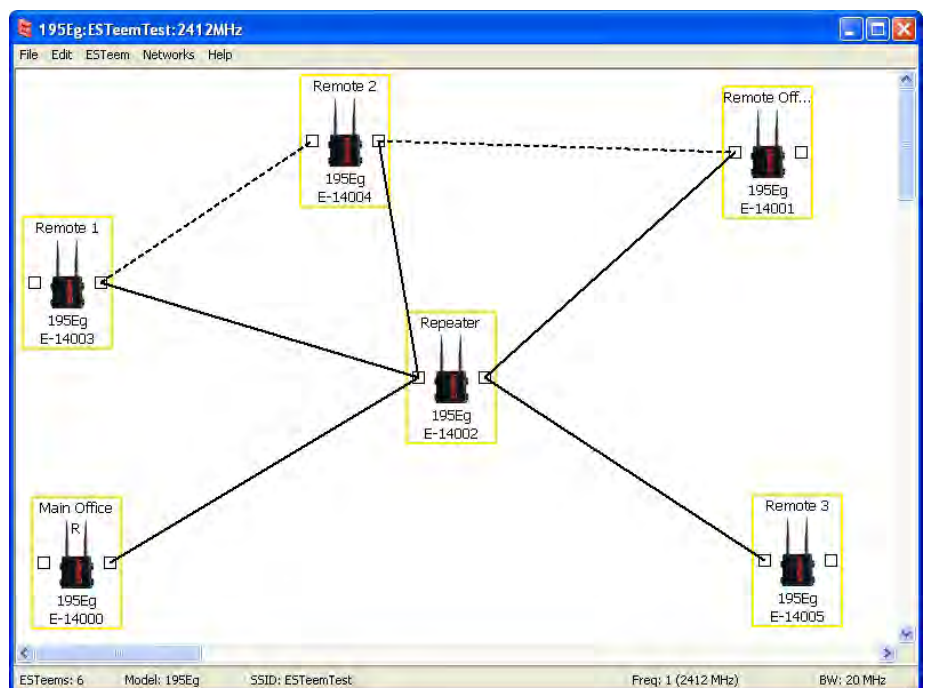

Figure 17: Mesh Network Configuration
2. Move the ESTeem 210 icons on the screen to simulate the layout of the diagram. Draw connection lines between the primary wireless links modems in the same order as the network layout (Figure 17).
in the repeater Mesh configuration (Figure 17). For detailed instruction on Mesh network configuration, refer to Chapter 7 of this User's Manual.